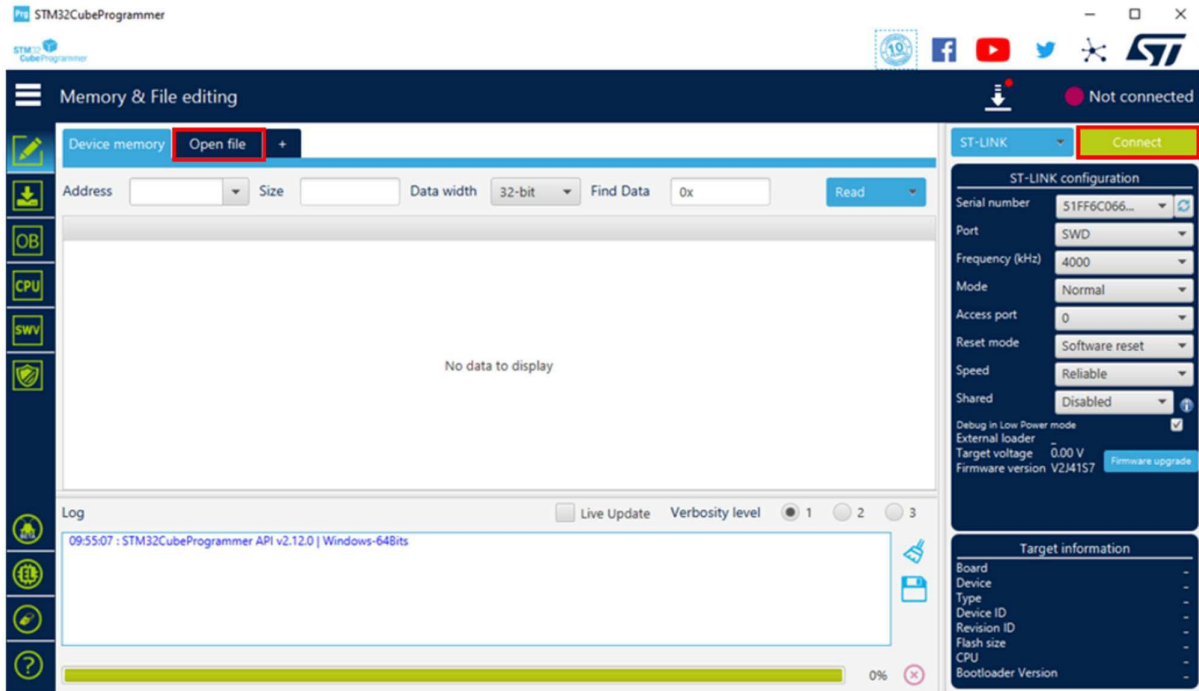

Figure 4: Bootloader process.
- Click the “Open file” button and select the bootloader (.hex) file that you would like to program onto the unit. Refer to Figure 4.